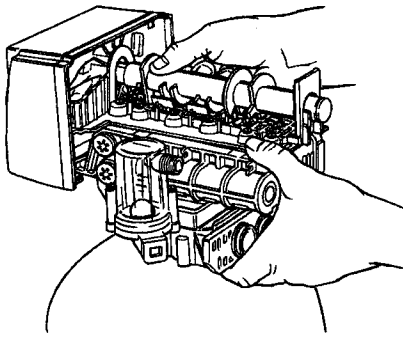

Figure 12
4. Slide the camshaft back, disengage it from the timer, Figure 12.